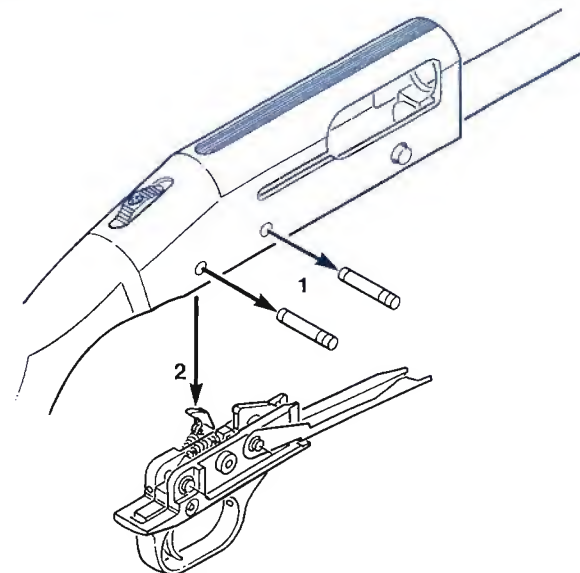

Figure 12
1. Push out the two trigger housing retaining pins using a blunt object no larger than 1/8" diameter (Figure 12). (The pins can be pushed out from either direction).